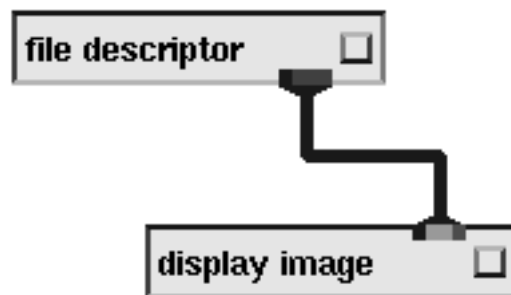

Figure 1-6: Debug Network for .x Images
16. Now that everything is specified, the data can be read from disk by selecting the **send data** button in the AVS control panel. Once the file has been read, a field will be output on the **file descriptor** module's output port. You can hook this port up to the **display image** module to check out your results (see Figure 1-6).